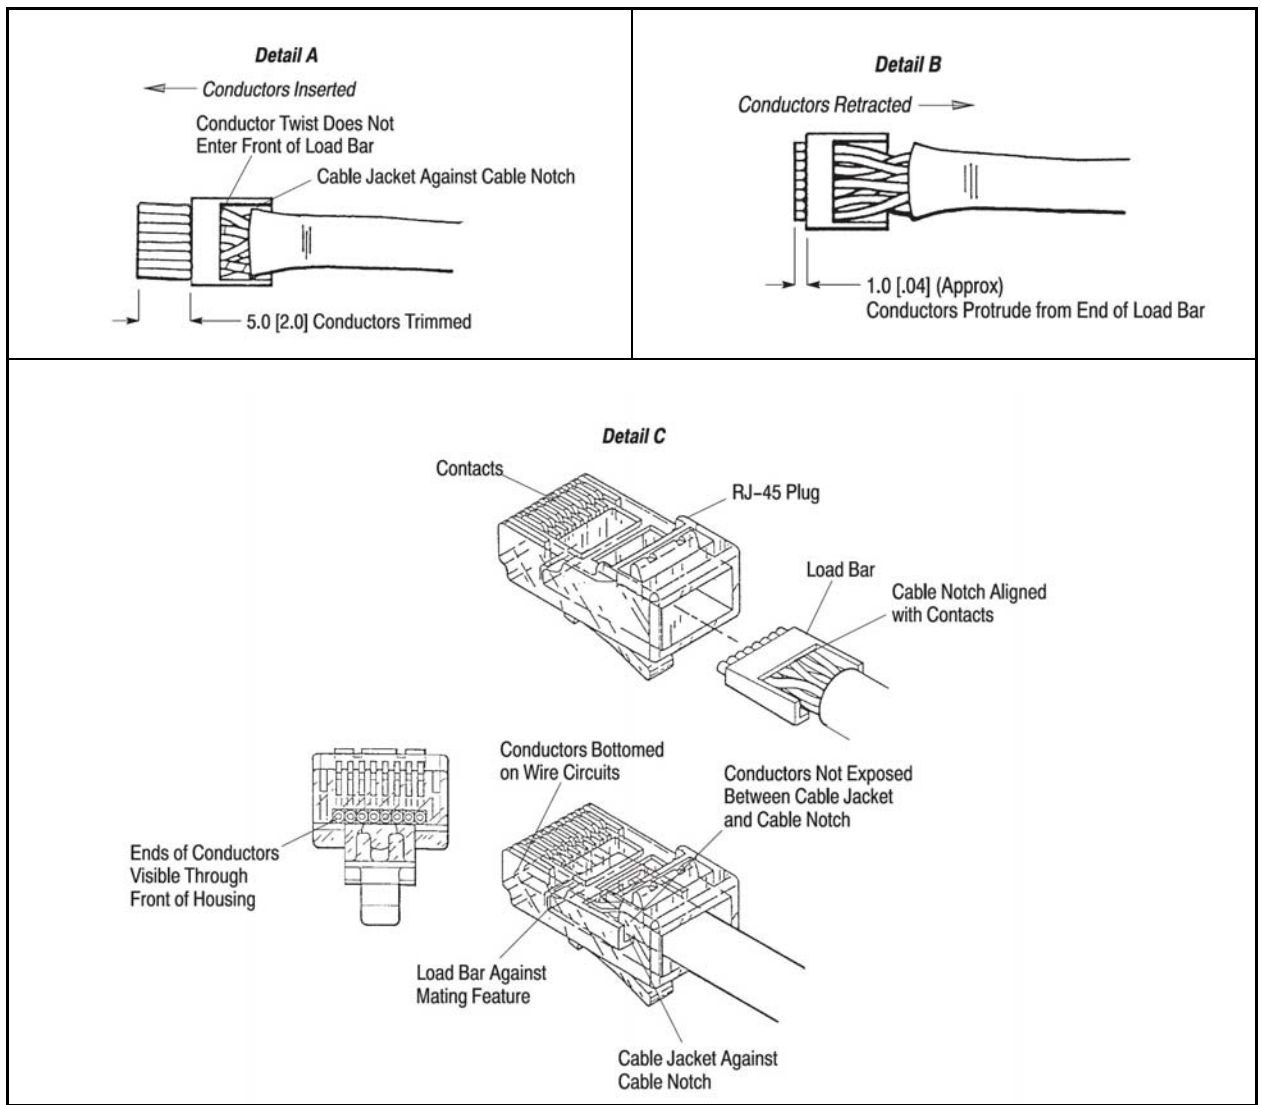

Figure D-6: Termination Requirements
1. The conductors (maintaining arrangement) must be inserted into the load bar (oriented so that the cable notch will align with the contacts) until the cable jacket rests against the cable notch. The conductor twist must not enter the front of the load bar. The conductors must be trimmed evenly and square with the front edge of the load bar to the dimension given in Figure D-6, Detail A.
2. The conductors must be retracted from the load bar so that the conductors protrude from the end of the load bar to the dimension given in Figure D-6, Detail B. The top of the load bar must not be deformed.
3. The load bar (oriented so that the cable notch is aligned with the contacts) must be inserted into the RJ-45 plug until it butts against the mating feature of the RJ-45 plug, and the conductors are bottomed on the wire circuits. The cable jacket must be against the cable notch after the load bar is fully seated. The conductors must not be exposed between the cable jacket and cable notch. The ends of the conductors must be clearly visible through the front of the RJ-45 plug. See Figure D-6, Detail C.